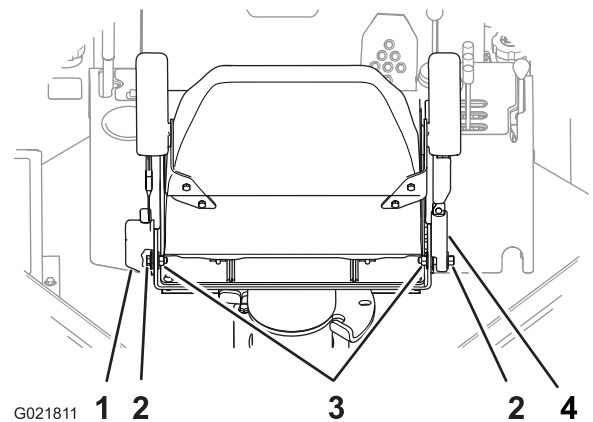

Figure 99
3. Check that the bolts and nuts that attach the seat-belt retractor and buckle to the seat are torqued to 7.8 to 9.6 N-m (69 to 85 in-lb); refer to Figure 99.